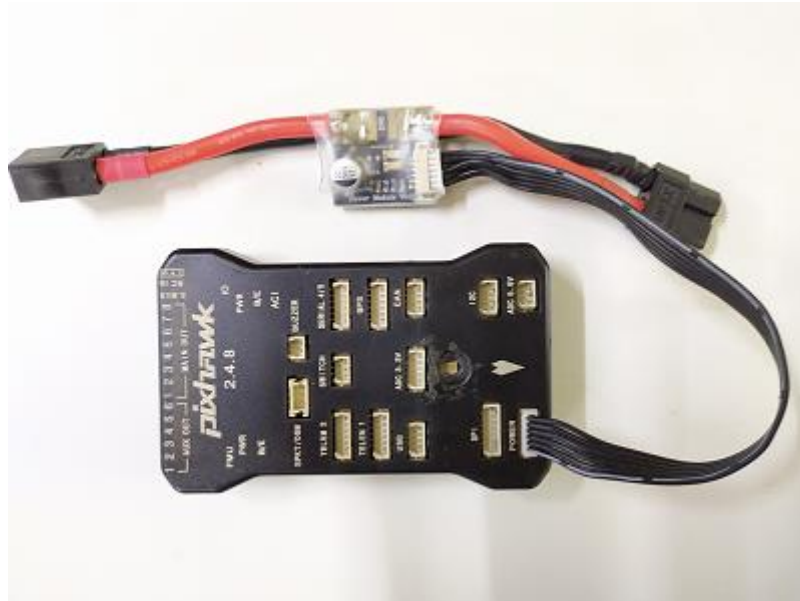

Fig.3.8
10. Connect the power module to the Flight controller (POWER). Refer Fig.3.8.